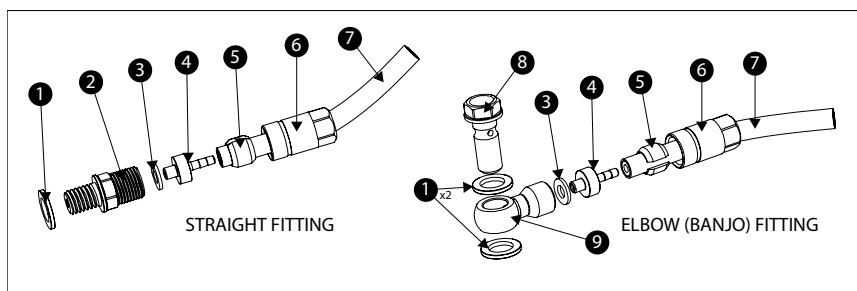

Figure 20 - Hydraulic Kit Assembly
- Put the handle over a flat surface with the reservoir upwards. Using an Allen key, undo and remove the screws (item 9) securing the cap (item 8). Remove the cap and the gasket underneath (item 10).
- Prepare a can to pour the remaining brake fluid of the circuit. Undo and remove the bleeder (item 2) from the actuator block (item 1). Beware that the brake fluid will escape from the bore: Take the necessary cautions as brake fluids may be irritant or corrosive. Squeeze the handle several times to empty the reservoir and to allow the circuit to drain completely, pouring the fluid in the can. Dispose the old fluid following the local regulations.
- Using a set of suitable circlip pliers or similar, undo and remove the retainer (item 5) from the block. Pull and release carefully the piston (item 3).
- Using a set of open-ended spanners, disconnect the hose (item 7) from the connector (item 12) and the block. Note that straight and elbow versions are available and described in depth in Figure 20. Release also the hose from the handle assembly.
- Handle assembly can only be fixed by replacement. No attempt must be made to repair it, as special tooling and components are required. The only item that can be withdrawn is the handle grip tube (item 11), which can be removed by loosening the screw which secures it to the handle.
NOTE: Whenever a seal is removed (particularly items 1 and 3 on Figure 20), it is strongly recommended to replace with a new one.